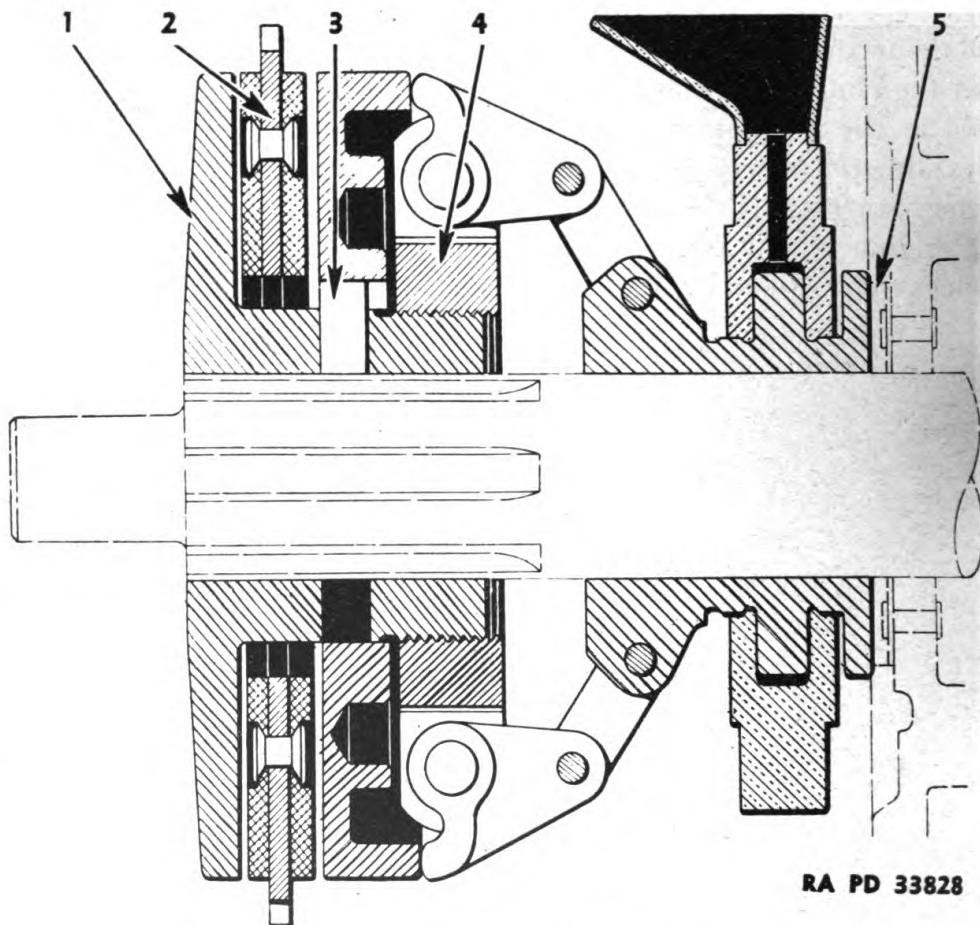

FIGURE 112.—Clutch disassembly.
b. To remove.—(1) The clutch driving plate is accessible after its housing is separated from the starting engine. Pull out on the adjusting collar lock pin and back the collar (4) (fig. 112) away from the front pressure plate (1) until the dowel pin (3) in the hub can be lifted out. The assembly can then be slid or pulled off the shaft.
(2) After removal, the clutch plate (2) may be readily changed or the clutch dismantled for replacements. The clutch brake (5) should be inspected while the clutch assembly is removed and relined if worn.
NOTE.—When reassembling the clutch, be sure to replace the dowel pin (3) (fig. 112).